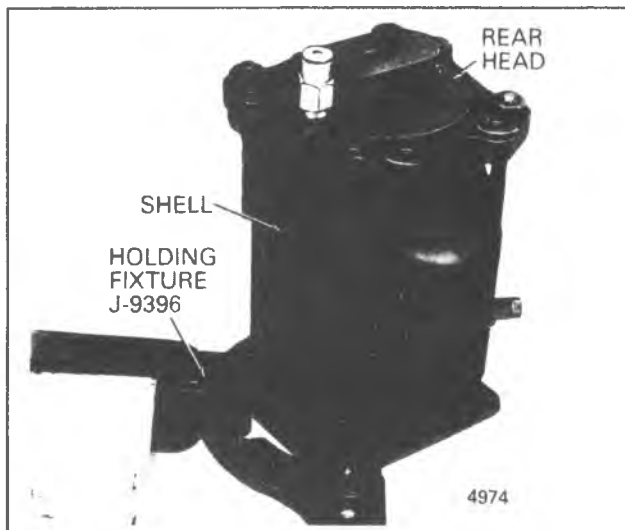

Figure 1D-29 A-6 Compressor Installed in Holding Fixture
4. Remove four locknuts from threaded studs on compressor shell and remove rear head. Tap uniformly around rear head if head is binding (Figure 1D-29).
5. Wipe excess oil from all sealing surfaces on rear head casting webs, and examine sealing surfaces (Figure 1D-30). If any damage is observed, the Rear Head should be replaced.